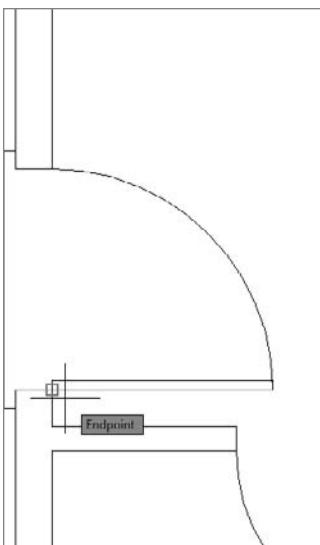

FIGURE 7.4 The back door opening when the hinge point is picked as the insertion point
5. Move the cursor to the back door area, and position it near the hinge point of the door. When the Endpoint marker appears on the hinge point (see Figure 7.4), click.